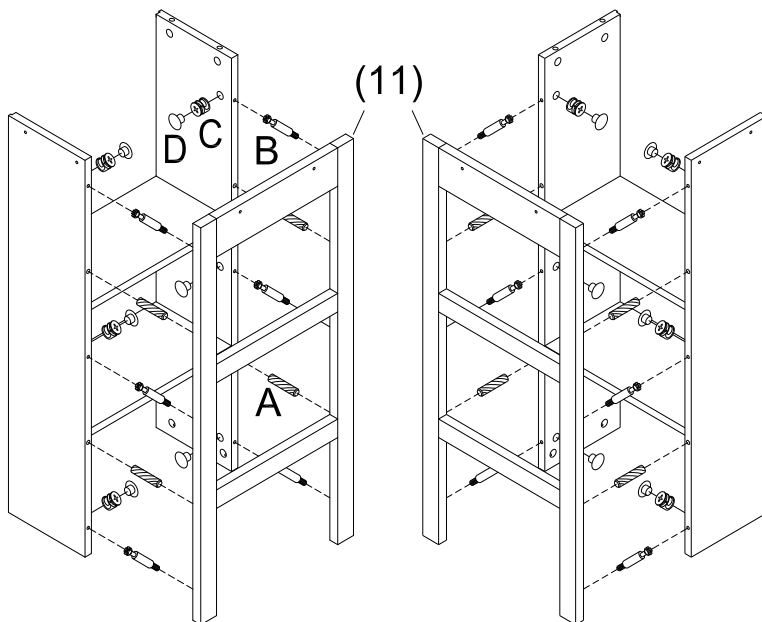

Figure 2
Insert Cam Locks (C) into holes on assembled unit on figure 2.
Attach assembled unit on figure 2 to Left Bookcase Base (3) and Right Bookcase Base (4) by inserting Cam Bolts (B) into corresponding holes until Left Bookcase Base (3), Right Bookcase Base (4), and assembled unit on figure 2 meet.